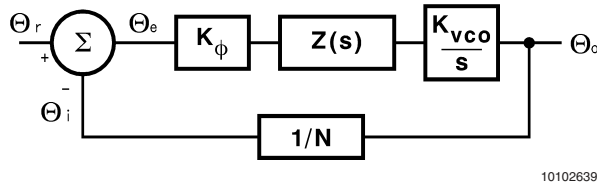
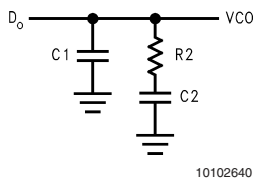

FIGURE 2. PLL Linear Model
FIGURE 3. Passive Loop Filter
A linear control system model of the phase feedback for a PLL in the locked state is shown in Figure 2. The open loop gain is the product of the phase comparator gain ($K\phi$), the VCO gain (K_{VCO}/s), and the loop filter gain $Z(s)$ divided by the gain of the feedback counter modulus (N). The passive loop filter configuration used is displayed in Figure 3, while the complex impedance of the filter is given in Equation (2).